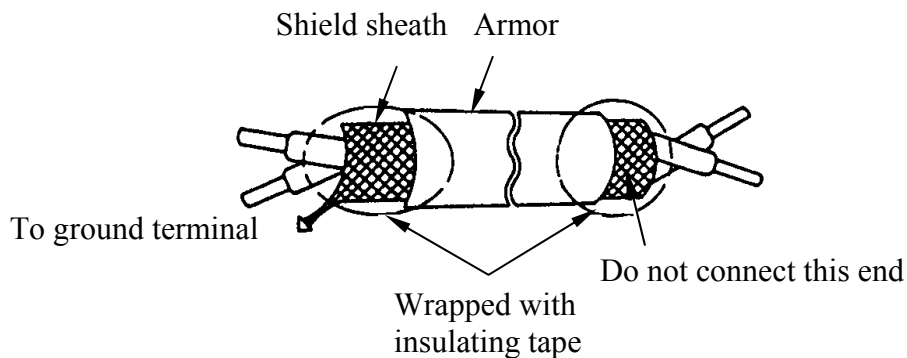

Figure 3-12 Processing the ends of twisted pair cables
- In order to prevent noise interference which could cause inverter faults, the control circuit signal should be shielded and twisted. Please refer to figure 3-12. The wiring distance should be less than 150ft (50m).